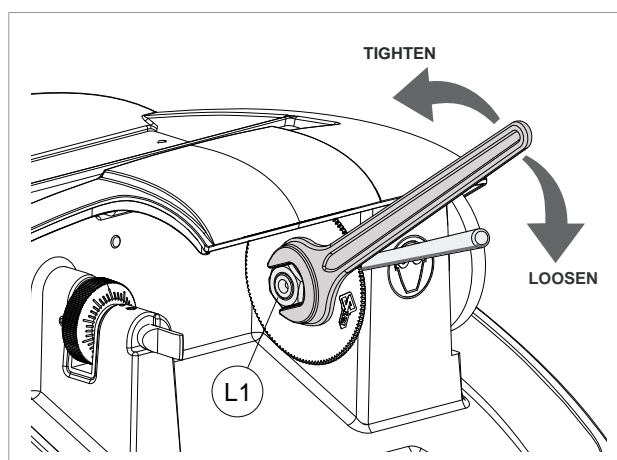

Fig. 31
- 2) Use the spanner provided to loosen the cutting tool locking nut (L1) (Fig. 31).